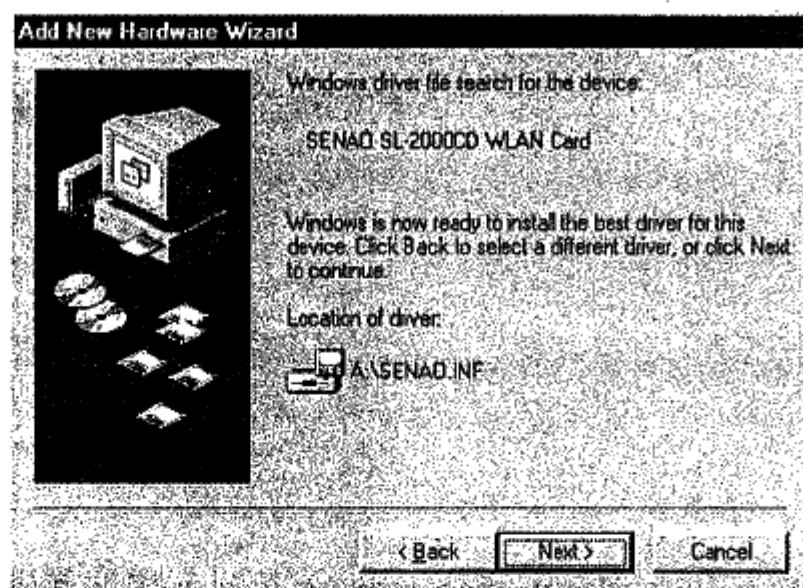

Figure 3-12
6. Windows will find the driver as shown in Figure 3-12. Click "Next".